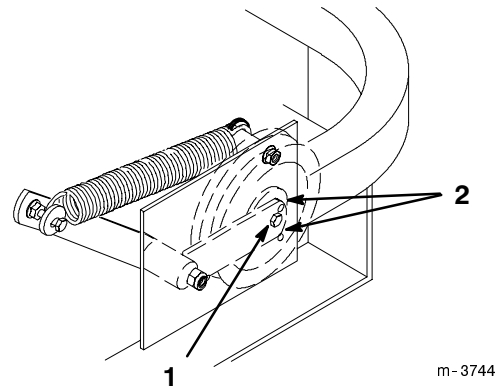

Figure 54
8. Check belt tension. The center bolt of spring loaded idler must be between the two alignment holes in left support plate (Fig. 54).
10. Check belt tension again. The center bolt of spring loaded idler must be between the two alignment holes in left support plate (Fig. 54). Adjust, if necessary, and tighten all hardware securely.